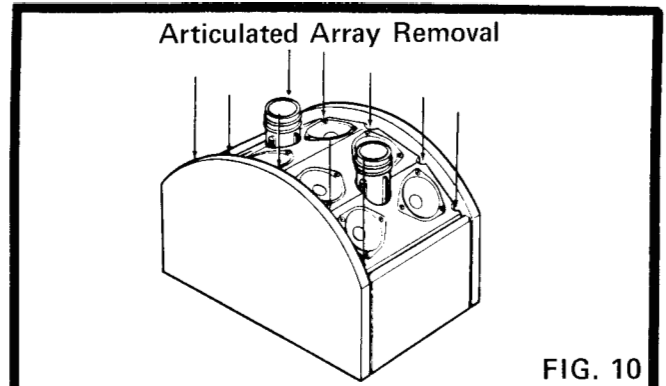

FIG. 10
2. Remove the ten (10) screws that hold the Articulated Array in place. (See Fig. 10)
8. Once repair has been confirmed, and no wire buzzes has developed, secure the ten (10) retaining screws. (Do NOT overtighten).